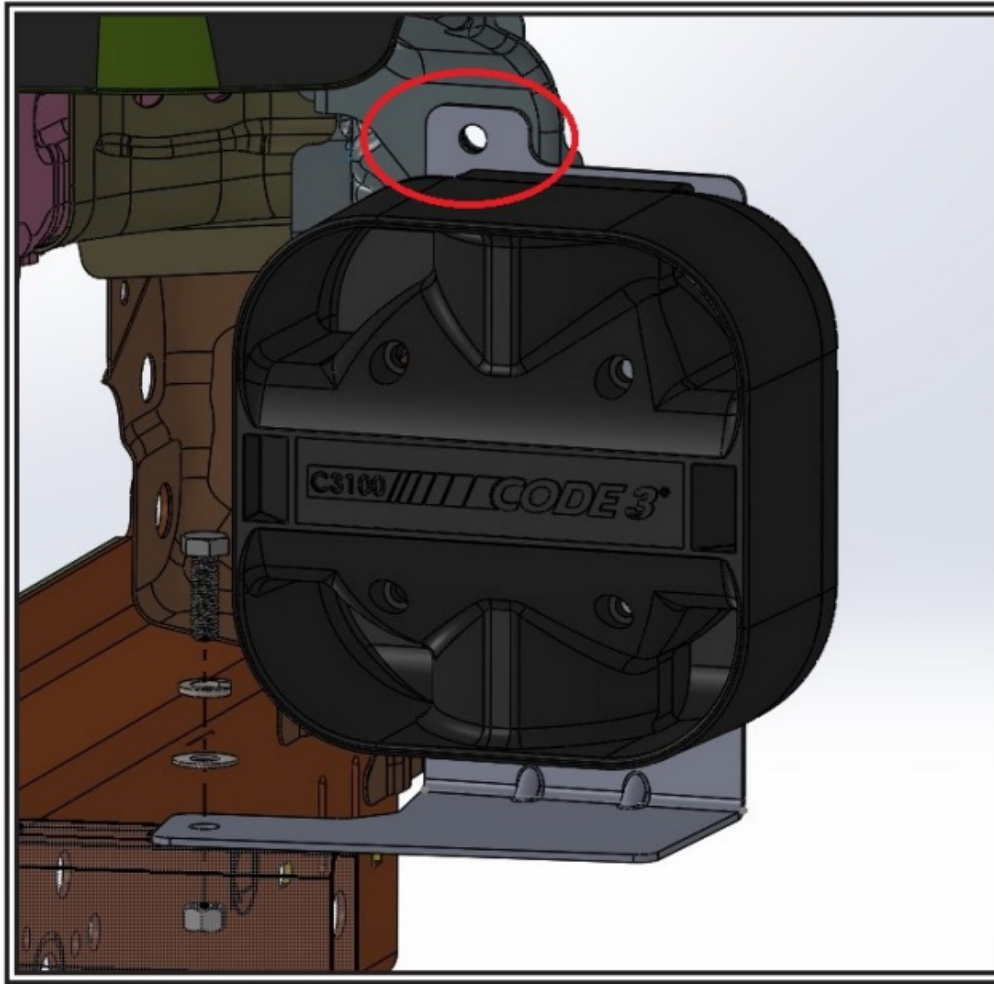

Figure 3
4. Remove vehicle screw and install top side of bracket into place. See Figure 3.